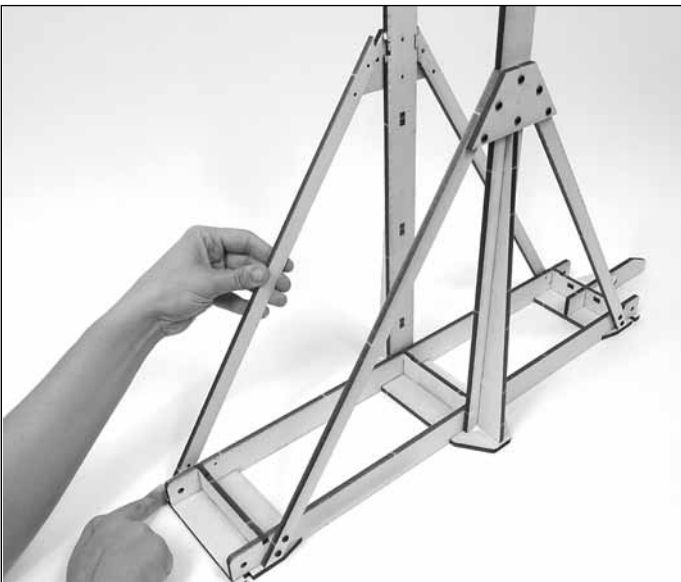

Figure 15
9. Locate the four Part I pieces. Note that both ends of these pieces are angled, but only one has a notch. One at a time, glue these parts so the notched end fits into the notches on the sides of the standing E pieces (on the inside of the Parts O) and the flat side is on top of the M or N pieces (on the outside of the frame or the Parts H) (Figure 15). Using eight 1/2" screws, secure the Parts I to the trebuchet.